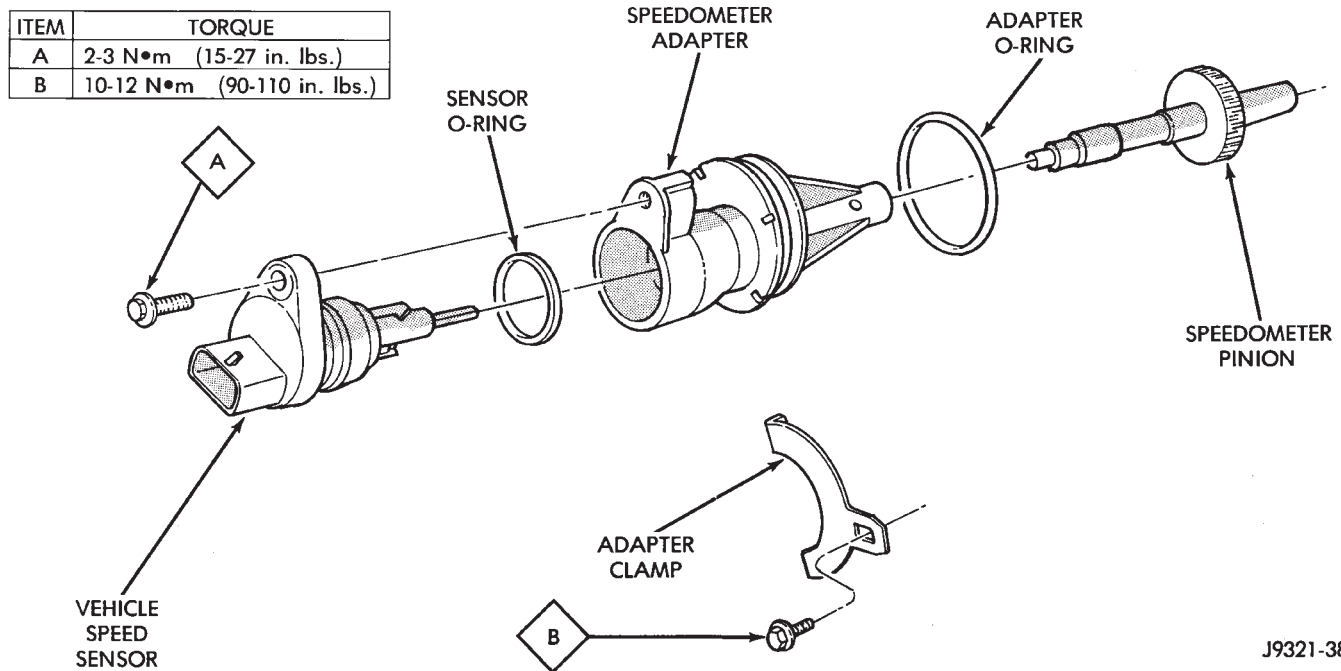

Fig. 16 Speedometer Components (With Unit Style Sensor)
The speedometer assembly used in XJ models is the new unit type (one-piece) speed sensor (Fig. 16). However, YJ models may be equipped with either the new unit style, or the older style that has a two-piece speed sensor and a metal adapter (Fig. 16). Service procedures for both styles are described in the following procedures.
- (1) Raise vehicle.
- (2) Disconnect wires from vehicle speed sensor.
- (3) Remove adapter clamp and screw (Fig. 16).
- (4) Remove speed sensor and speedometer adapter as assembly.
- (5) Remove speed sensor retaining screw and remove sensor from adapter.
- (6) Remove speedometer pinion from adapter.
- (7) Inspect sensor and adapter O-rings (Fig. 16). Remove and discard O-rings if worn or damaged.
- (8) Inspect terminal pins in vehicle speed sensor. Clean pins with Mopar electrical spray cleaner if dirty or oxidized. Replace sensor if faulty, or pins are loose, severely corroded, or damaged.